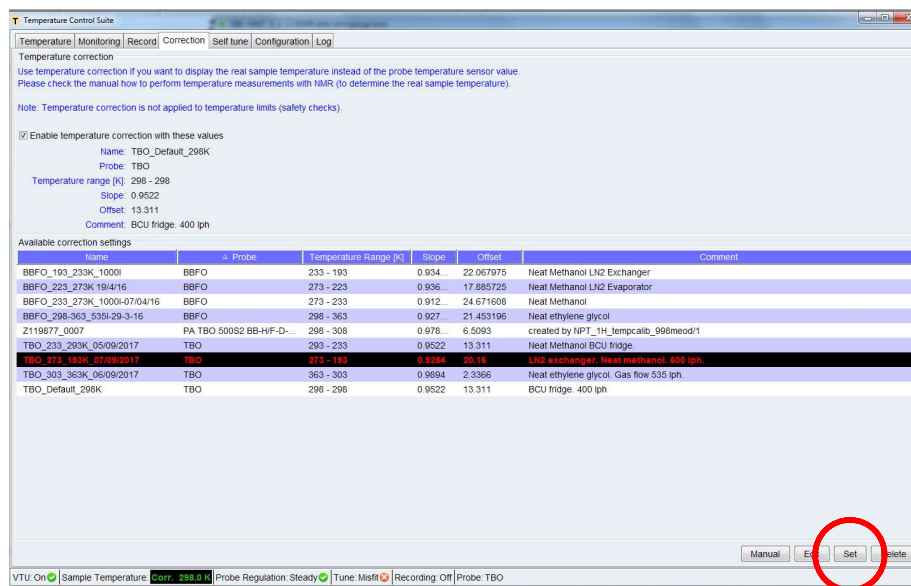

Figure 18: Selection of temperature correction parameters.
1. In the Temperature Control Suite, click on the “Correction” tab. Select the appropriate temperature correction file according to temperature range and probe, as specified in Table 5, and click on the Set button (Figure 18).